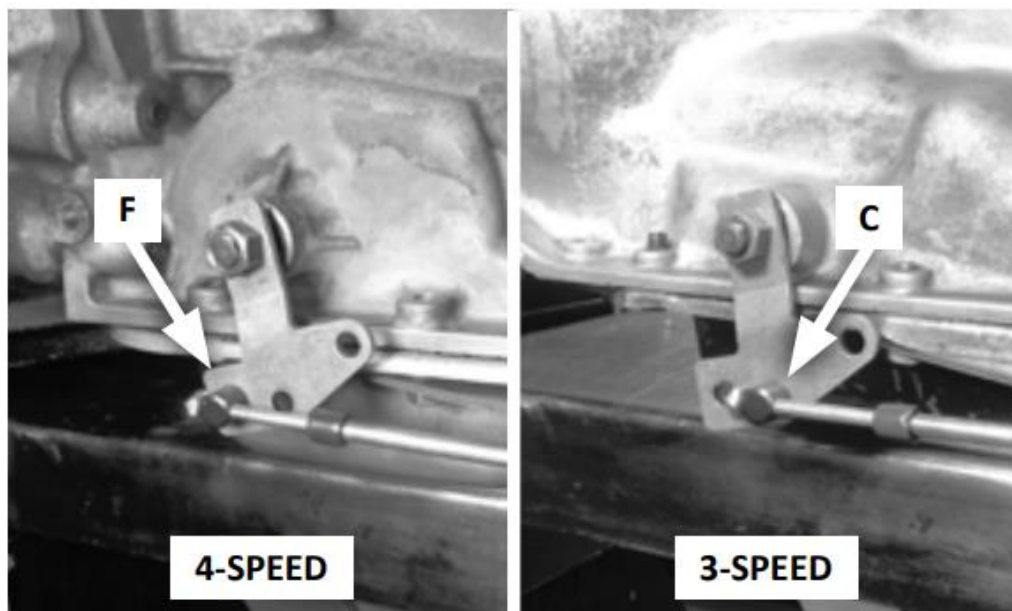

Figure 28
- 51.** Adjust the cable housing nuts until the swivel slides freely in and out of the correct hole in the selector lever as seen in figure 28 (hole F for 4-speeds; hole C for 3-speeds). Gradually tighten the nuts against the bracket, while continuing to check the fit of the swivel in the selector lever. The shifter will not operate correctly unless the correct one on the lever is used.